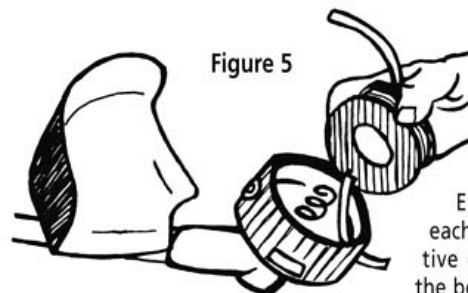

Figure 5
- Once the line is locked on the spool, hold the spool as shown in (Figure 5). Align to Floating Eyelets™ and insert each line into its respective eyelet starting with the bottom Line Lok™.